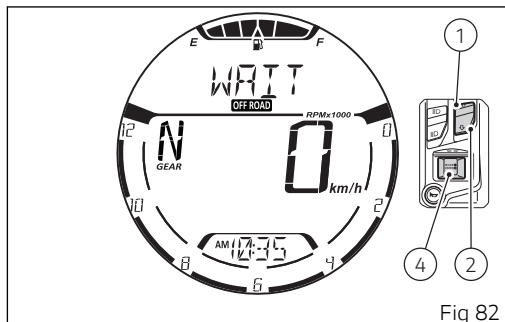

Fig 82
After pressing button (4), the message "WAIT" will be displayed for 2 seconds instead of "ABS: ON" (Fig 82).